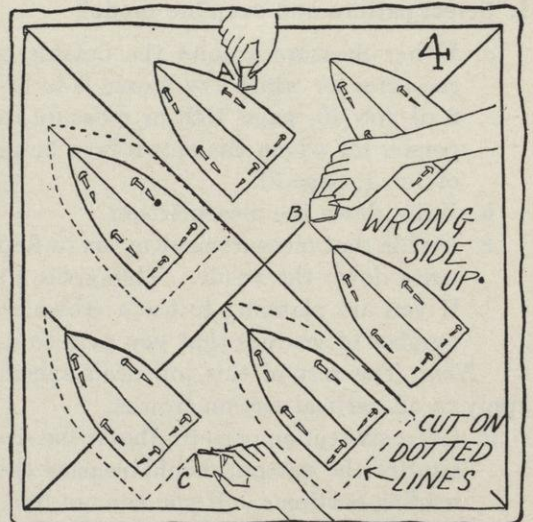
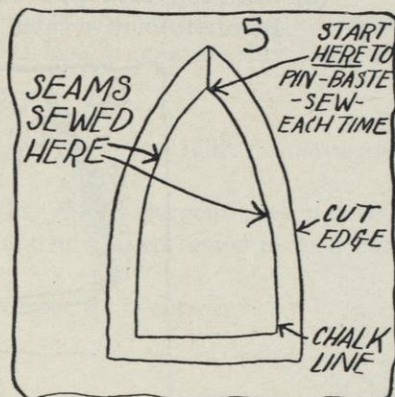

FIG. 4.
FIG. 5.
- a. Lay the six patterns which you have cut on the wrong side of the material. Leave a space of $\frac{1}{2}$ inch between the sides of each pattern for a seam allowance. All patterns should lie with the points which form the tip in the same direction, and the center crease of each pattern should be parallel to one of the lines which mark the true bias, and the base (or headsize) of each pattern should be parallel to the other line which marks the true bias (see Figure 4).
- c. Trace an outline of each pattern on material with tailor's chalk (see point A in Figure 4). Do not cut on this mark.
- d. On the material draw vertical lines about $\frac{1}{2}$ inch long. These lines will be a continuation of the creases in the center of each pattern (see point B in Figure 4). These $\frac{1}{2}$ -inch lines will be a guide in cutting the sections of the crown.
- e. Draw a dotted line evenly $\frac{1}{4}$ inch around and outside of the chalked outlines of each section including the headsize (see point C in Figure 4). This will allow for seams. Be particularly careful at the tip. Watch the vertical line and keep dotted line $\frac{1}{4}$ inch away from the extreme tip (see Figure 4).
- h. Cut the material evenly on dotted lines, chalked $\frac{1}{4}$ inch outside of the chalked outline of the patterns (see Figure 4). Be particularly careful to cut evenly at the extreme tip. Watch short vertical lines that you drew and keep $\frac{1}{4}$ inch away from the extreme tip. Each of the six pieces should look like Figure 5.
a. Sew, by machine, the four seams which are still basted. Be sure that each seam starts at the point just where the chalk mark starts, which is just below the vertical line that you drew on each section. Do not sew above that point (see Figure 5, page 163).